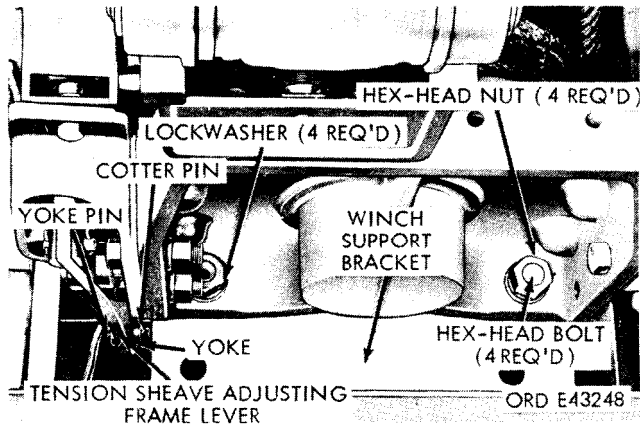

Figure 2-269. Rear winch—top view of right end.
(g) Remove cotter pin and yoke pin securing air chamber push rod yoke to lower end of tension sheave adjusting-frame lever, and remove yoke from lever (fig. 2-269).
(1) Remove the cotter pin (fig. 2-269) and the yoke pin securing the air chamber push rod yoke to the lower end of the tension sheave adjusting-frame lever. Remove the yoke from the lever.
(2) Remove the two capscrews and safety nuts
securing the floor plate (fig. 2-269) to the support bracket bolted to the rear of the winch.
(3) Remove the drive chain (para 2-325).
(4) Remove the four hexagon-head bolts (fig. 2-269), nuts, and lockwashers securing the winch to the left and right support brackets.
(5) Remove the chain and hook assembly from the winch cable.
(2) Secure the winch to the support brackets with four hexagon-head bolts (fig. 2-269), lockwashers, and nuts.
(6) Position the air chamber push rod yoke on the lower end of the tension sheave adjusting-frame lever (fig. 2-269), and secure it with the yoke pin and cotter pin.